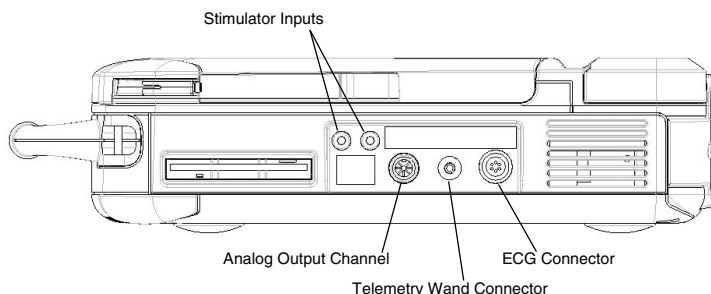

Figure 1. Right side panel of the PRM.
2. Plug the telemetry wand into the connector on the right side of the PRM (Figure 1).
1. Connect the Model 6750 Surface ECG Patient Cable to the ECG connector on the right side of the PRM (Figure 1). This patient connection is electrically isolated. Attach the surface electrodes to the patient in a standard three-wire or five-wire configuration.
2. Connect the Model 6924 External Recorder Cable to the analog output channel on the right side of the PRM (Figure 1). Connect the other end to the multichannel recorder or external strip chart recorder. The Model 3120 PRM has high-level analog outputs.
3. Connect the Model 6892 Controller-Stimulator Cable to the pacing stimulation source connector marked "Stimulator Input" on the right side of the PRM (Figure 1) and then into the corresponding terminal on the electrical stimulation source.